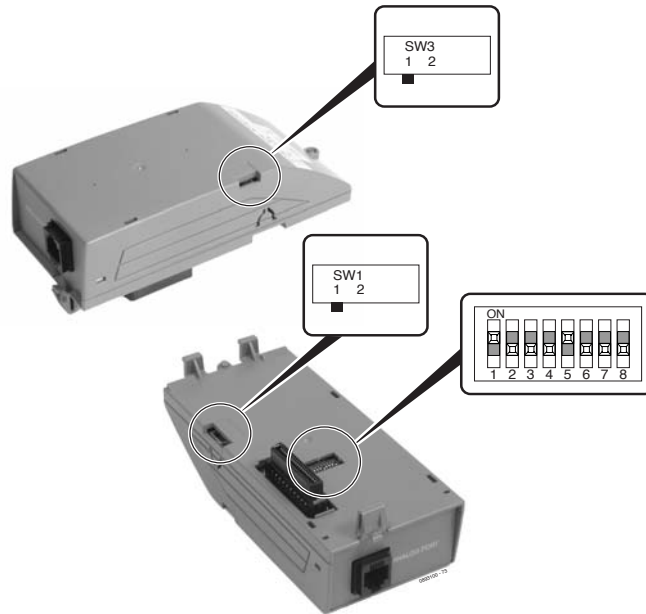

Figure 4-39: DIP SWITCH SETTINGS
### APA and APR Adapters (Figure 4-39 - Figure 4-40)
**CTA Adapter (Figure 4-39 - Figure 4-40)**